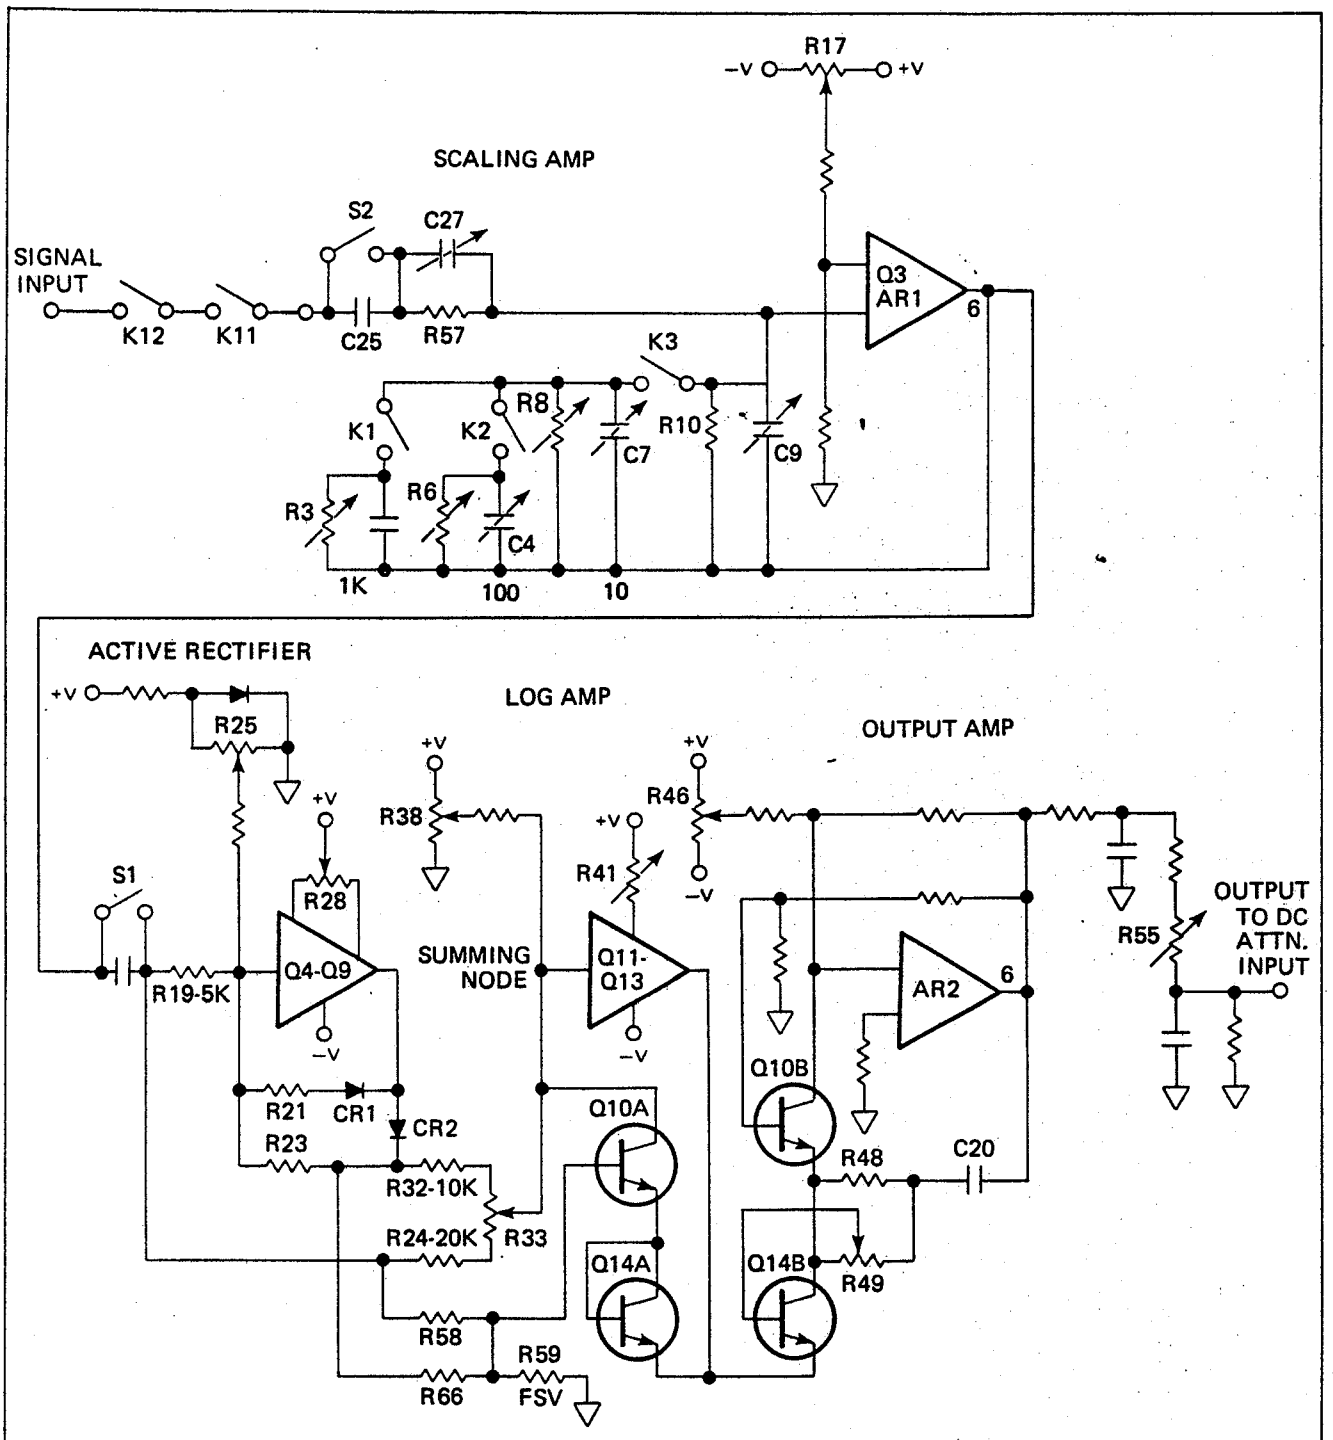

Figure 5.7 - Calibration Points
- c) Adjust the trimmers listed under "adjust" for the readout indicated. The trimmer locations are shown in Figure 5.7.